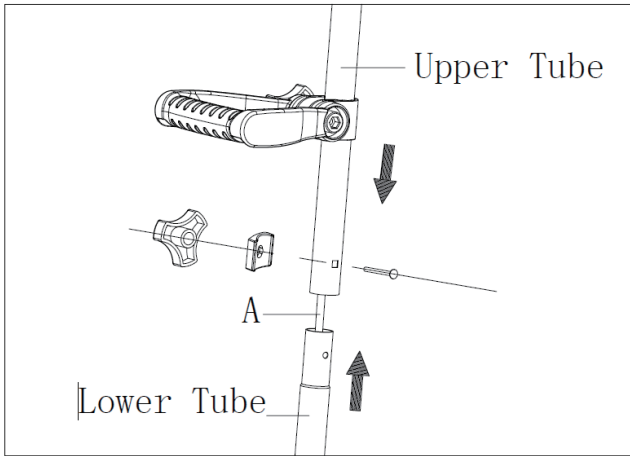

Fig. 2
2. Align the screw holes (Fig.2).
3. Make sure that the internal cable (A) does not block the mounting holes.